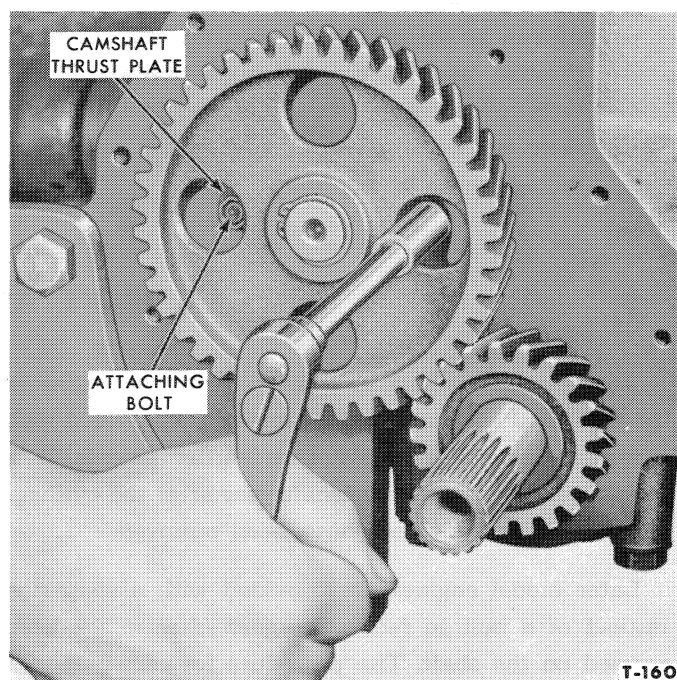

Figure 72—Removing Camshaft Thrust Plate Attaching Screws
8. Remove the two cap screws that attach the thrust plate to the cylinder block, as shown in Figure 72.